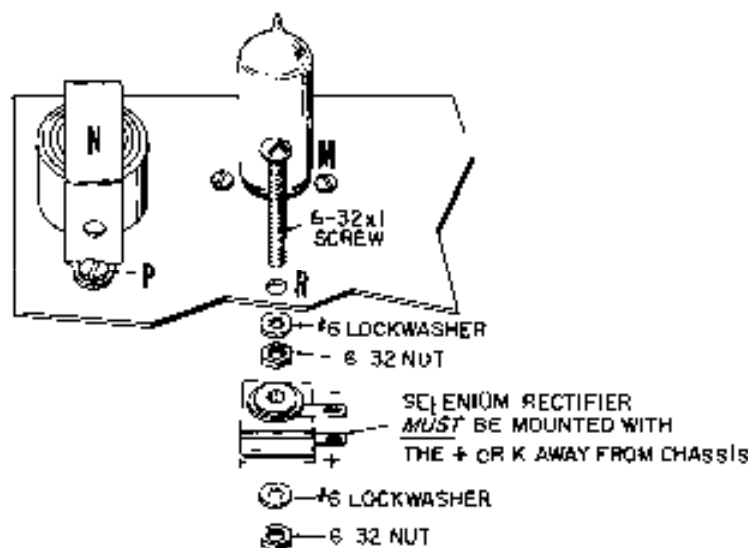

FIGURE 13
- () 94. Connect the center lead of the dual .01 mfd (10,000 mmfd) ceramic disc capacitor to the point U2 (Solder). Connect one side lead to U1 (Don't Solder) and the other side lead to L3 (Don't Solder). See Figure 13. Keep the leads as short as possible.